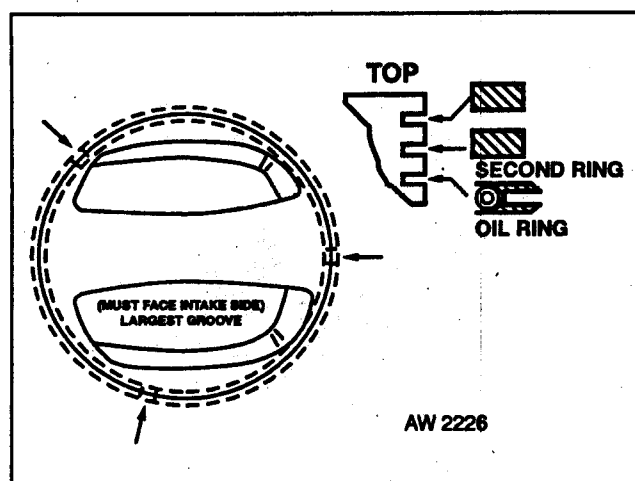

Fig 2.15 Piston Ring Assembly
- d. At assembly the piston must be installed with the largest grooves facing the intake side, and the rings spaced at 120° angles between ring gaps. Fig 2.15 refers.